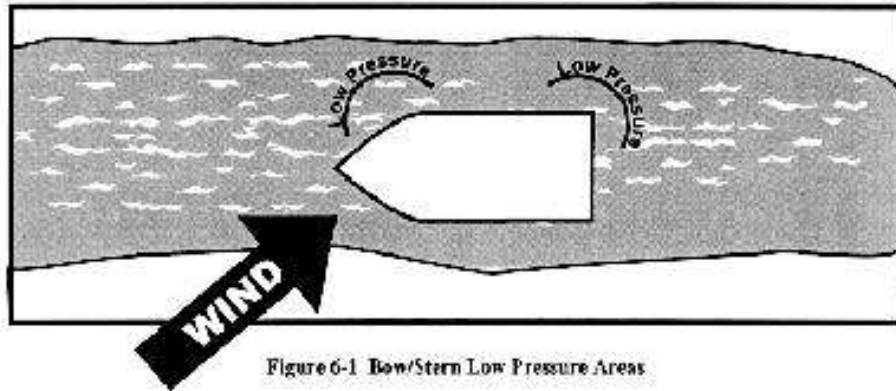

Figure 6-1 Bow/Stern Low Pressure Areas
- 5 Areas for Concern. The areas around the bow and stern of the beset vessel are where low pressure areas are most likely to occur. This is a result of the prop wash and backing of the beset vessel weakening the ice as it attempts to free itself (See **Figure 6-1.**) As the assisting vessel approaches either end of the beset vessel it should begin to open the distance between the vessels and be prepared to maneuver to avoid a collision.